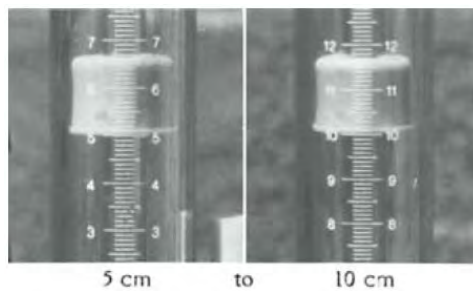

Fig. 34 - The position of Well Height Indicator against the Well Head Scale.
**Establish the second Well Head Height ( $H_2$ )** if the Two-Head Procedure is being used, slowly raise the Air Tube until the well height  $H_2$  is established, as indicated by reading the lower edge of the Well Height Indicator against the Well Head Scale (see Fig. 34). In permeable soils keep the combination reservoir and raise  $H_2$  to between 10 to 20 cm, depending on the R value obtained. In slow permeable soils keep the inner reservoir and raise  $H_2$  to between 20 to 25 cm, again depending on the R value obtained. In most cases set  $H_2 > 2H_1$ .